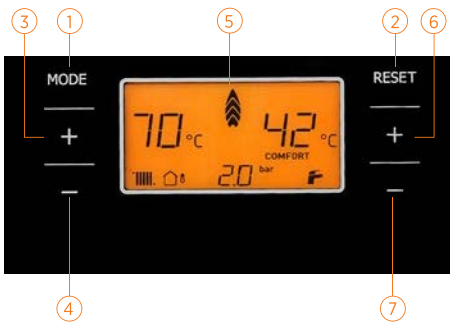

Figure 1 Control panel of Minerwa 25 Combi Boiler
At that position, combi boiler operates both for heating the environment and providing Domestic Hot Water. Radiator (CH) temperature adjustment is made with (3) and (4) numbered buttons in Figure 1, Domestic Hot Water temperature adjustment is made with (6) and (7) numbered buttons and this temperature is indicated with (9) numbered indicator for Radiator (CH) and with (11) numbered indicator for Domestic Hot Water.